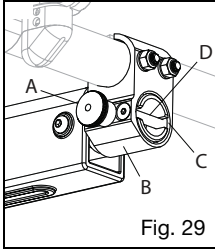

Fig. 29
- a. To remove, pull the release knob (Fig. 29:A) to disengage the locking pin and slide the assembly out of the tubular receiver (Fig. 29:B).
- b. To insert the assembly, pull the release knob (Fig. 29:A) and insert the assembly into the tubular receiver (Fig. 29:B).
- c. Rotate the assembly in the receiver to align the slot (Fig. 29:C) and the cross pin (Fig. 29:D).
- d. Release the knob (Fig. 29:A).